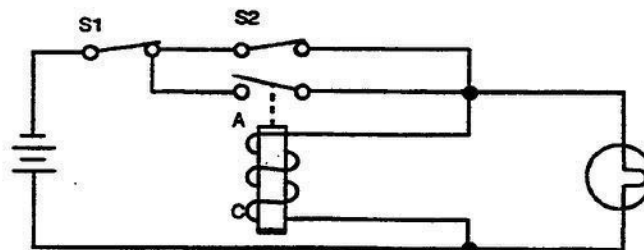

Figure 2-68. Holding relay.
**Relay circuits.** Figure 2-68 shows a *holding relay*. Switches S1 and S2 are spring loaded switches that return to their original positions as soon as they are released. S1 is NC and S2 is NO. Momentarily closing S2 permits current to flow through coil C and the lamp. With current applied, the armature is attracted toward the electromagnet, thus closing the circuit at point A. This provides an additional path for current through coil C and the lamp. Releasing contact A keeps or holds the circuit closed. In order to stop current, switch S1 must be temporarily opened. Opening S1 causes the relay to de-energize and open contact A. Releasing or closing S1 does not re-establish current. S2 must once again be closed to turn on the lamp and energize the relay. S2 is sometimes marked ON and S1 marked OFF.